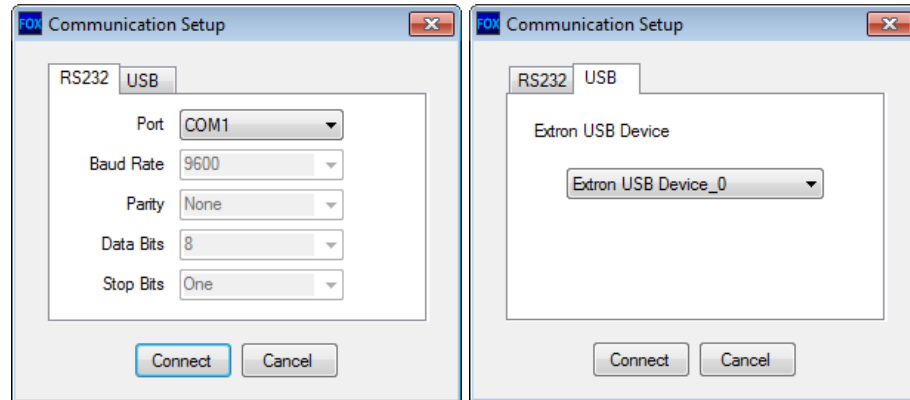

Figure 10. Communication Setup Window Connection Methods
- To connect the software to the device through the rear panel Remote RS-232 connector, click the **RS232** tab and select the desired port from the **Port** drop-down list (see the left side of figure 10).
- To connect the software to the device through the front panel USB connector, click the **USB** tab and select the Extron USB device from the **Extron USB Device** drop-down list (see the right side of figure 10).
1. From the **File** menu, select **Connect**. Alternatively, click the  icon below the menu bar. This displays the **Communication Setup** dialog box opens (see figure 10 on page 24).